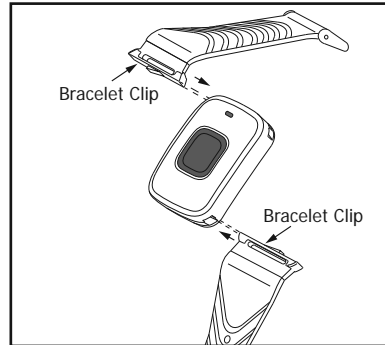

Figure 1: Bracelet mounting
The 1148 Emergency Pendant provides the options to be used as a bracelet or on the lanyard. The Bracelet or Lanyard clips can only be inserted in one direction as shown in Figures 1 and 2. Once inserted the clips cannot be removed.
1. Slide the Bracelet clip into the slots until fully seated. See Figure 1.